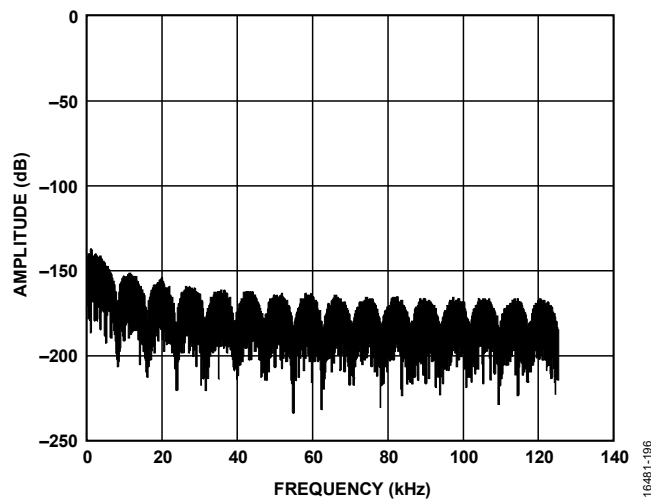

Figure 139. Example Filter Profile Upload
The following sequence programs a sinc1 filter. The coefficients in Address 0 to Address 23 = 0. The coefficients from Address 24 to Address 55 = 131,072 ($2^{22}/32$). When MCLK = 16.384 MHz and ODR = 256 kHz, the filter notch appears at 8 kHz and multiplies of 8 kHz. This filter provides low noise and is recognizable by the distinctive filter profile shown in Figure 139.
- Gather data. The resulting filter profile is shown in Figure 139.